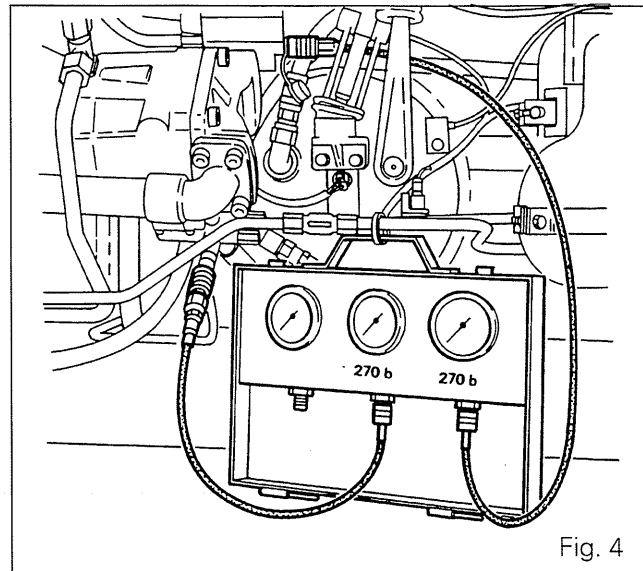

Fig. 4
- Connect a pressure gauge to each diagnostic connector located (Fig. 4):